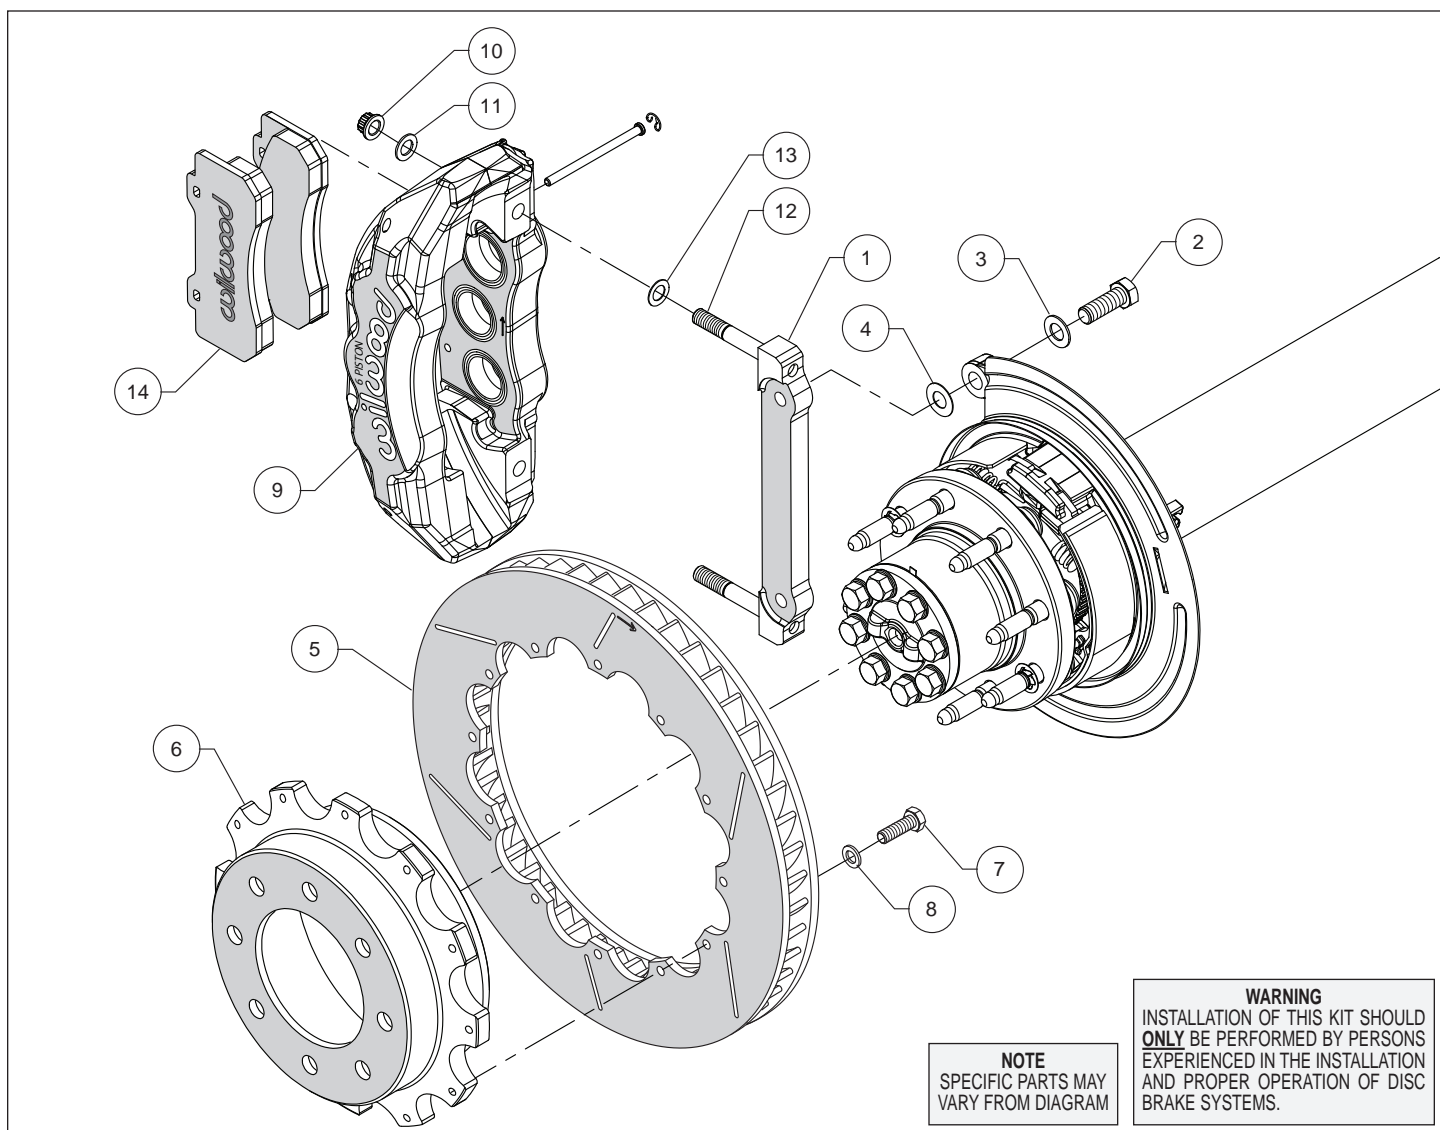
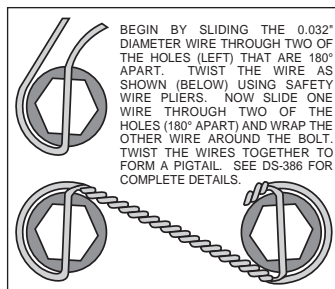

Figure 1. Typical Installation Configuration
Figure 3. Safety Wire Diagram
Assembly Instructions (numbers in parenthesis refer to the parts list and Figure 1 on the preceding pages):
- The caliper mount bracket (1) should initially be installed with clean, dry threads on the mounting bolts. Orient the bracket as shown in Figure 1 and Photo 1, and install using bolts (2) and washers (3). Initially place one .029 thick shim (4) on each bolt between the bracket and upright, Figure 1. Temporarily tighten the mounting bolts. **NOTE:** *The bracket must fit squarely against the mount bosses on the upright.* Inspect for interference from casting irregularities, machining ridges, burrs, etc. Later, after the caliper alignment has been checked, the mount bolts will be secured using red *Loctite*[®] 271.
- Orient the rotor (5) and the hat (6) as shown in Figure 1 and Photo 2. Attach rotor to hat using bolts (7) and washers (8). Using an alternating sequence, apply red *Loctite*[®] 271 to the threads, and torque to 25 ft-lbs. The bolts must be safety wired using standard 0.032 inch diameter stainless steel safety wire as shown in Figure 3. Please refer to Wilwood's data sheet DS-386 for complete safety wire installation instructions.
- NOTE:** *This kit contains distinct right and left hand calipers that must be mounted in a specific direction, as described below.* Lubricate the caliper mounting studs (12) with lightweight oil. Initially place one .032" thick shim (13) on each stud as shown in Figure 1 and Photo 3. Mount the caliper (9) onto the bracket (1) using lock nuts (10) and washers (11), Figure 1. Ensure that the caliper is mounted so that the largest pistons are at the rotor exit end of the caliper, in relation to the direction of rotor rotation. Temporarily tighten the lock nuts and view the rotor through the top opening of the caliper. The rotor should be centered in the caliper, Photo 4. If not, adjust by adding or subtracting shims (4) between the bracket and the upright. Always use the same amount of shims on each of the two mounting bolts. Once the caliper alignment is correct, remove the bracket mounting bolts (2) one at a time, apply red *Loctite*[®] 271 to the threads, and torque to 77 ft-lb.